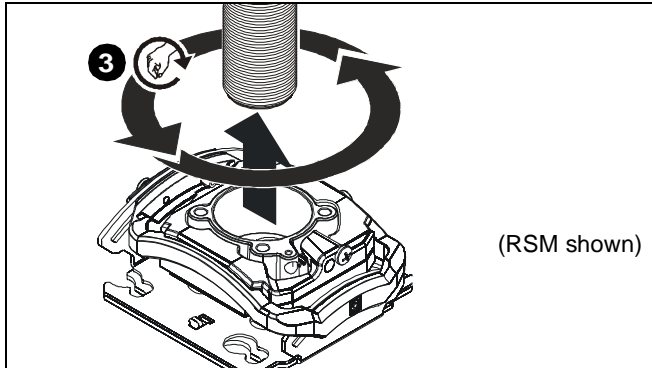

Figure 3
3. Thread projector mount onto interior pipe by rotating until hand tight. (See Figure 3)